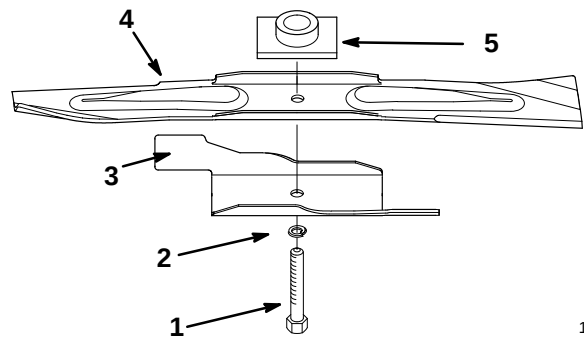

Figure 22
- Remove the blade bolt, lockwasher, blade accelerator and blade (Fig. 22).
1. Position the blade onto the spindle and blade driver, with the curved blade tips pointing toward the mower and the blade driver nesting in the recess of the blade (Fig. 22).
2. Install the accelerator, lock washer, and blade bolt (Fig. 22).